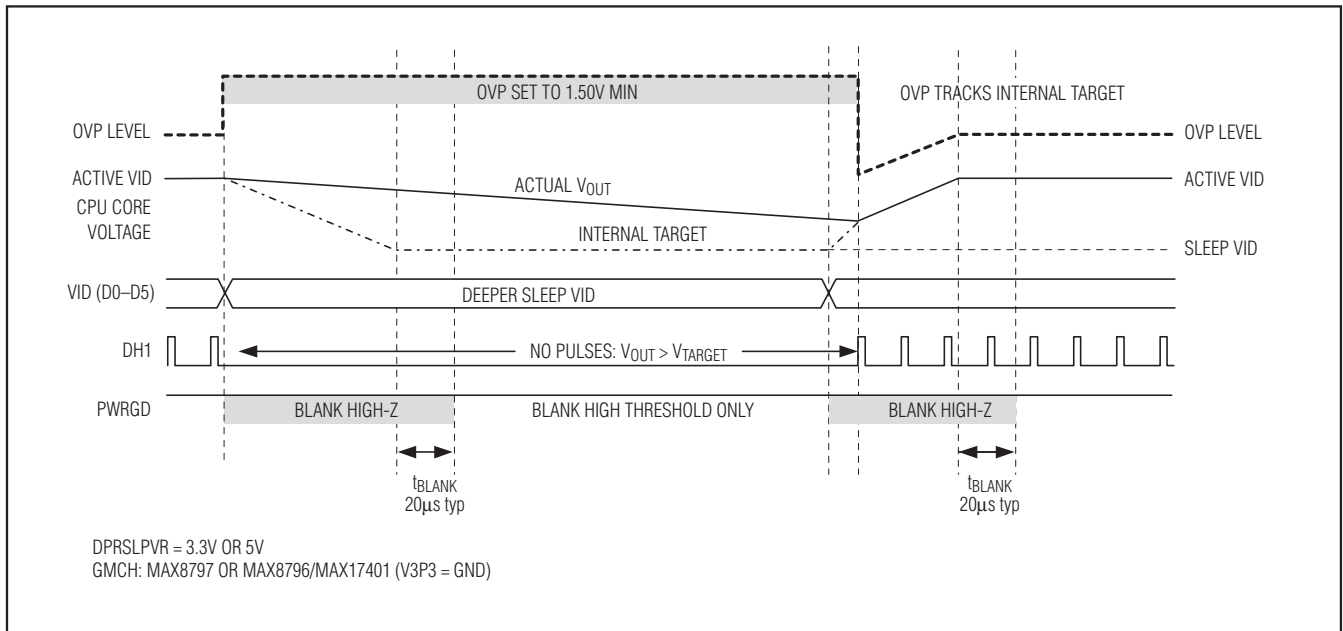

Figure 9. Early Exit GMCH Sleep Transition
- **Early GMCH sleep exit:** When exiting the sleep state while the output voltage still exceeds the internal target (the sleep voltage), the controller quickly slews (50mV/µs min regardless of R_{TIME} setting) the internal target voltage to the new VID DAC code as long as the output voltage exceeds the new target. Once the internal target reaches the output voltage, switching begins and the controller continues to ramp up the internal target and output voltage at the slew rate selected by R_{TIME}. The controller blanks PWRGD (forced high impedance) until 20µs after the transition is completed. See Figure 9.